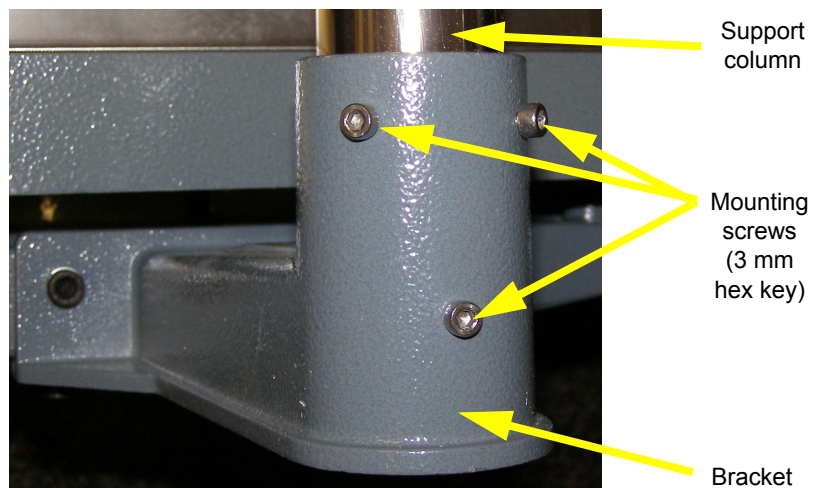

Figure 2.3 Insert column into bracket and secure with three screws
2. Attach the support column to the bracket at the back of the scale base using the three mounting screws. Use a 3mm hex (Allen) key to tighten the screws. See Figure 2.3.